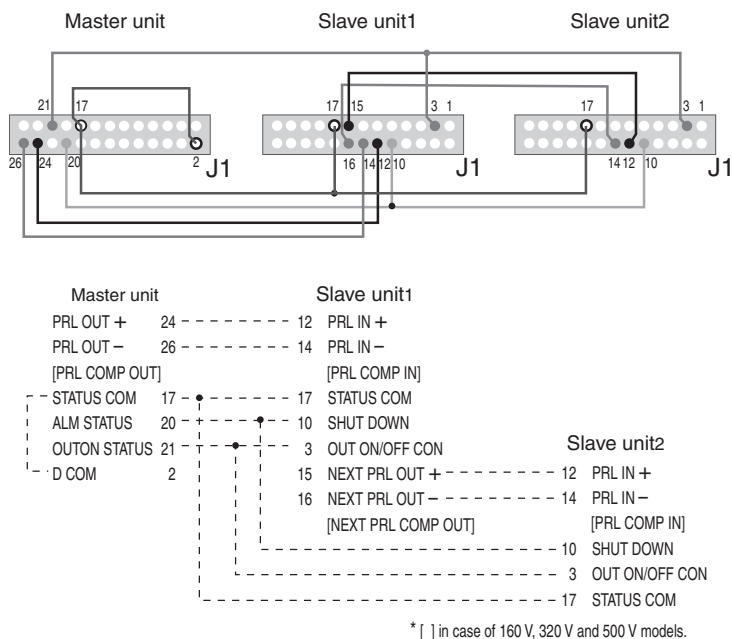

Fig.5-6 Connection for parallel operation
By connecting ALM STATUS of the master unit and SHUT DOWN of the slave units as shown in Fig.5-6, the OUTPUT or POWER switch of the entire system can be turned off when an alarm on the master unit is activated.
For master-slave parallel operation, two units are connected as shown in Fig.5-6.
2. Connect the J1 connectors on the rear panel as shown in Fig.5-6.